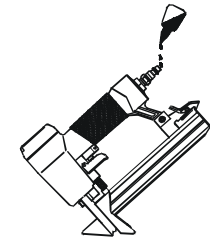

Figure 2
1. Determine if the tool needs oil and, if necessary, place two drops of oil in the AIR PLUG(72) as shown in Figure 2. If you are using an automatic in-line oiler, check and add oil if necessary.